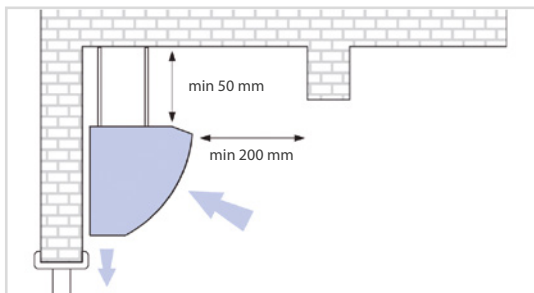

Figure 1
- The air curtain shall be assembled as close as possible to the upper edge of the doorway in the case of horizontal curtains and in the case of vertically assembled ones, as close as possible to the side edge of the doorway (see figure 1).